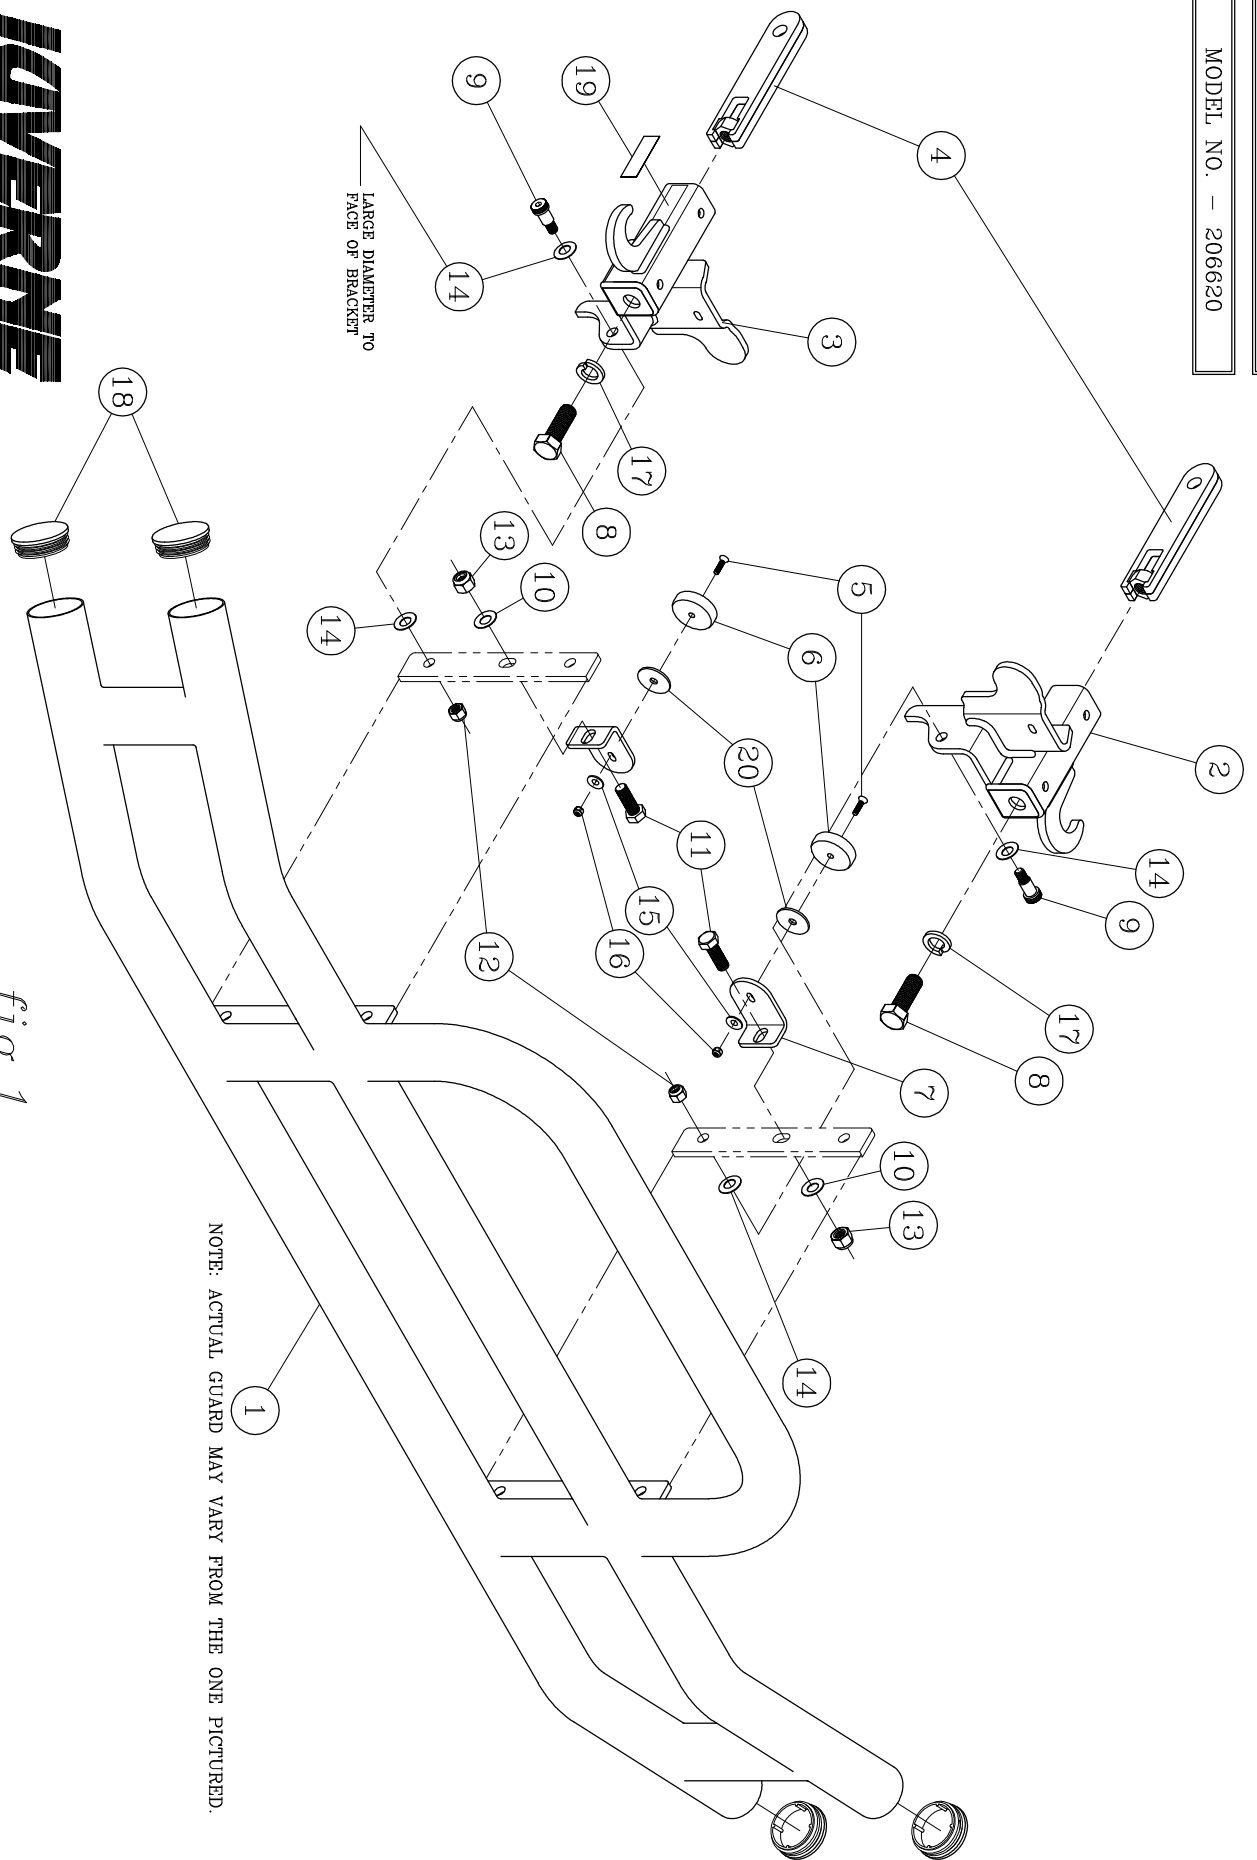

fig. 1
3. USING THE 5/8"-11 X 1-3/4" BOLTS (ITEM #11), AND 5/8"-11 NYLOCK NUTS (ITEM #12), AND 5/8" FLAT WASHER (ITEM #10), ATTACH MAGNET & MAGNET BRACKET (ITEM #6 & 7) TO THE MOUNTING BARS OF THE GRILLE GUARD, AS SHOWN IN FIG 1.
6. INSTALL THE 7/8"-9 X 3" BOLTS (ITEM #8) AND THE 7/8" LOCK WASHERS (ITEM #17) THROUGH THE FACE OF THE BRACKETS AND INTO THE MOUNTING BRACKET BARS (ITEM #4). TIGHTEN THE BOLTS. **(NOTE: WHEN TIGHTENING THE BOLTS, THE BRACKETS WILL HAVE A TENDENCY TO ROTATE. TO KEEP THE BRACKET FROM ROTATING, INSERT A BAR IN THE TOW HOOK AND UNDER (RH) OR OVER (LH) THE SQUARE TUBE TO MAINTAIN A STRAIGHT UP AND DOWN POSITION.)**